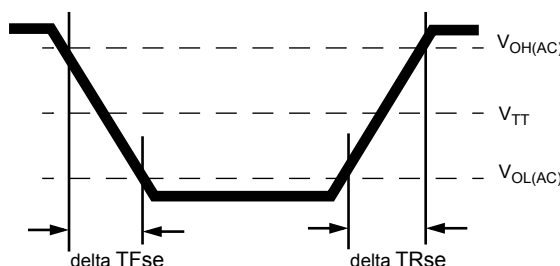

Figure 17. Single-ended Output Slew Rate Definition
With the reference load for timing measurements, output slew rate for falling and rising edges is defined and measured between VOL(AC) and VOH(AC) for single ended signals as shown in Table and Figure 17.